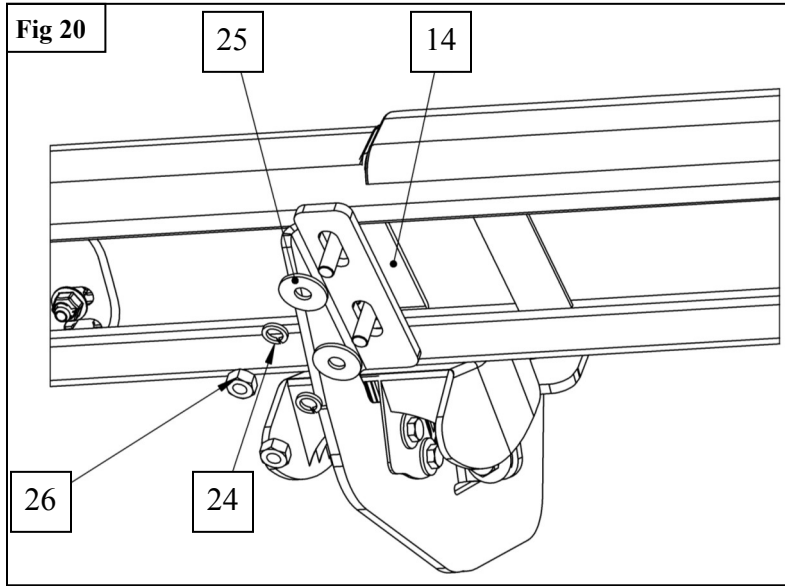

Fig 20
18. Installation of the step boards will utilize the supplied M8 hardware with Plate Adapters (14) for all brackets excluding the Link Brackets (7). The Link Brackets (7) will use the supplied M10 hardware. See Figures 20 and 21.
20. **Figure 20** shows the driver's side non-diesel bracket configuration.